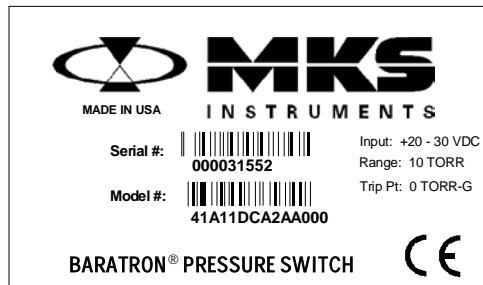

Figure 7: Serial Number Label
The trip point relay is a single pole, double throw switch, one normally open (NO), one normally closed (NC) form "C" relay with contacts rated from 0.1 to 1 ampere, resistive. When the relay is energized, the normally open (NO) contacts will close. The action of the trip point, whether it is energized above or below the trip point, is specified when the unit is ordered. Refer to *Appendix B: Model Code Explanation*, page 43, to determine the trip point action from the model code of the unit. In addition, the serial number label, shown in Figure 7, page 29, lists the trip point action.
Every pressure switch carries a serial number label, as shown in Figure 7. The